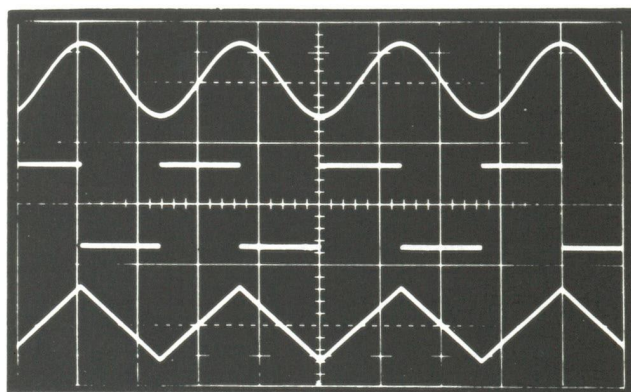

Fig. 3. Sine, square, and triangle waveforms.
6. Select sine, square, or triangle wave by pressing the corresponding FUNCTION switch (8). Fig. 3 illustrates the output waveforms and their phase relationships.
7. Connect a cable from MAIN OUTPUT (16) to the desired signal injection point.